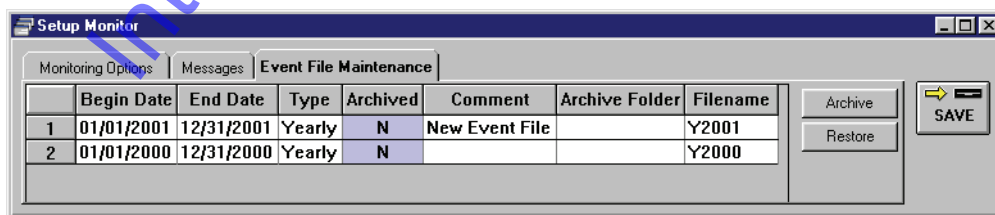

Figure 5-22: Restored Event File
5. Click on the button. The Event File Maintenance window will appear again (see Figure 5-22).